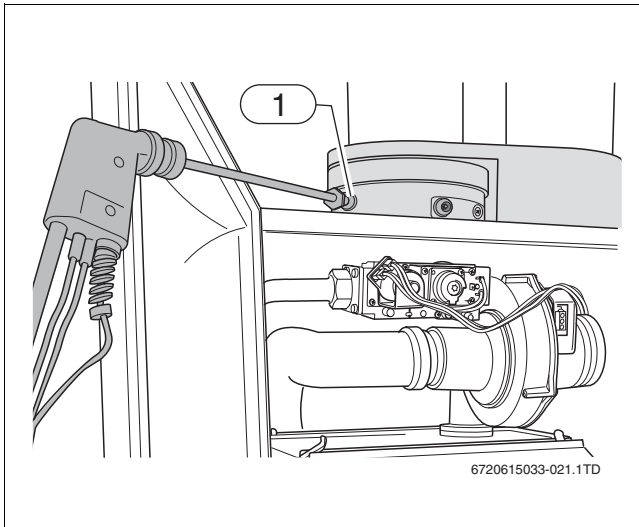

Fig. 18 Measuring the carbon monoxide content
3.5 Measuring the carbon monoxide content (CO)
- ▶ Measure the carbon monoxide content on the flue gas sampling point (→ fig. 18, [1]).